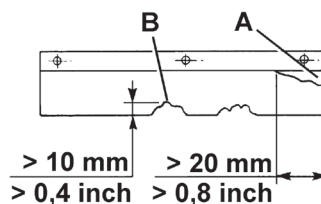

Figure 13
4. Unscrew the knobs (23 and 21) and remove both left (20) and right doors (22).
5. Check the side skirts (13 and 14) for integrity. Replace the skirts when they have cuts (A, Fig. 13) larger than 20 mm or cracks (B) larger than 10 mm (for skirt replacement, refer to the Service Manual).
9. Check the front (15) and rear skirts (16) for integrity. Replace the skirts when they have cuts (A, Fig. 13) larger than 20 mm or cracks (B) larger than 10 mm (for skirt replacement, refer to the Service Manual).